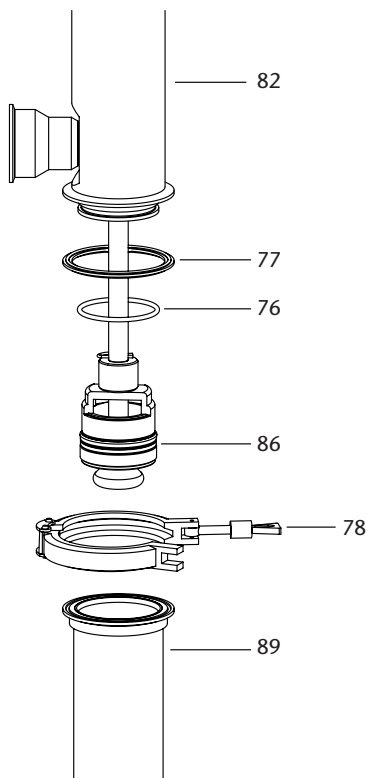
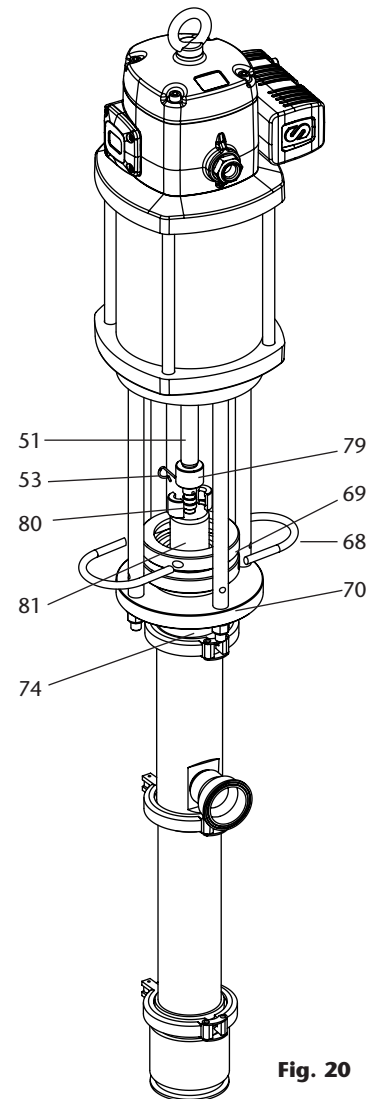

Fig. 18
Fig. 20
4. Fit the O-ring (76) and flat seal (77) onto outlet body (82). Push the piston valve (88) assembly into the cylinder (89), you can use a soft hammer to introduce gently the cylinder (89), then fit and tighten the clamp ring (78) (fig. 18).
5. Fit the flat seal (77) and ball (92) in inlet body (93). Introduce the retaining pin (90) into the cylinder (89) and place the inlet body (93) into cylinder (89). Then fit and tighten the clamp ring (78).
6. The wet part is ready to assembly into the motor. Fit carefully the gland nut (74) into the mounting flange (70). Place lock rings (69) and push the springs (68) thought to fasten the assembly to pump (fig. 20).
7. The air motor piston rod (51) and the pump packing rod (81) should now be pulled together so that they touch. Fit the two couplings (80), one either side so that they fit into both the groove in the air motor piston (51) and the groove in the pump packing rod (81). Remove the spring clip (53) from the air motor piston rod (51) so that the coupling cover (79) falls down to cover the couplings (80). The spring clip (53) can now be refitted into the hole in the air motor piston rod (51) to lock the assembly in place.